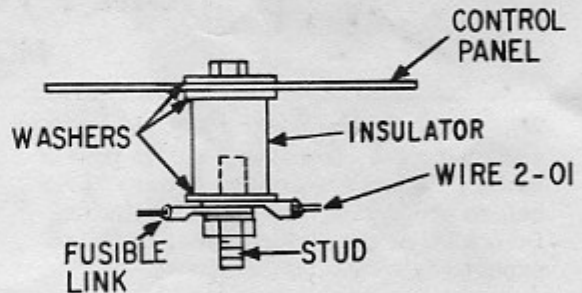

Figure 4B
15. Be careful not to strip the threads of the insulator when connecting wires to the insulated stud. See Figure 4B. Hand tighten the stud to the insulator. Tighten the nut to the stud and bolt to the insulator with 42-46 inch pounds of torque.